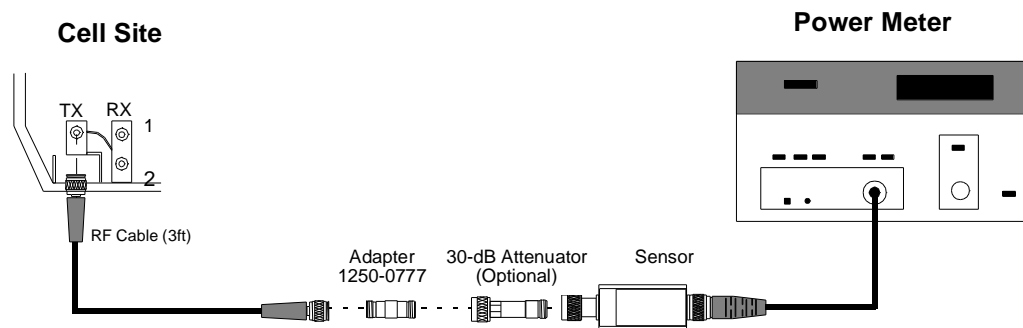

Figure 53
- 1 Make the connections shown in *figure 53, "TX Power Meter Reference"*. Zero your power meter and calibrate it as necessary.